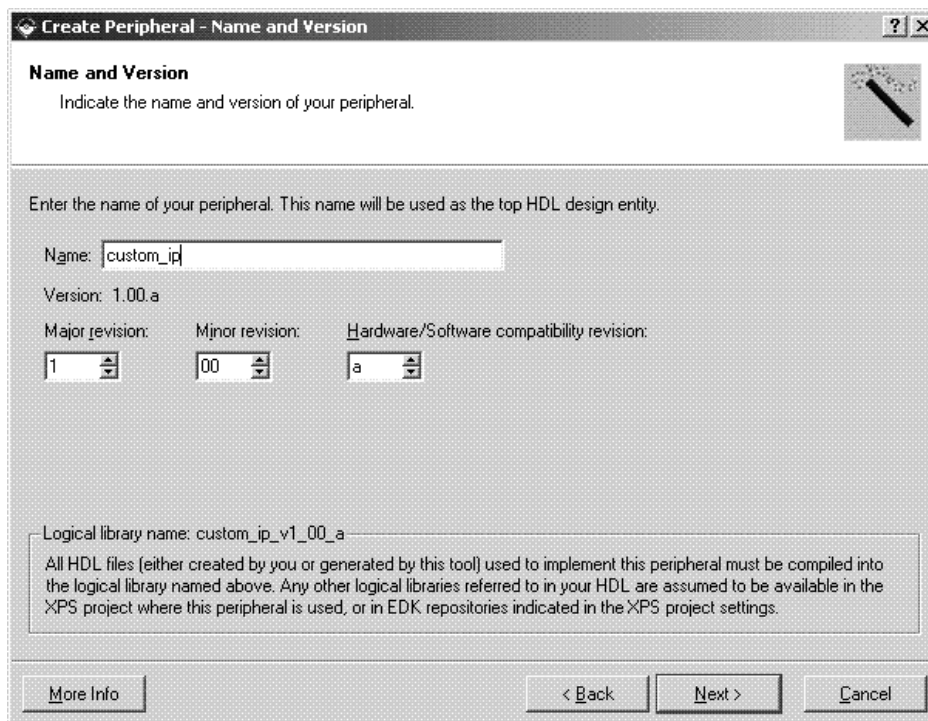

Figure 12: Create Peripheral - Name and Version
- Click **Next**. In the Create Peripheral – Name and Version dialog, enter `custom_ip` as the name of the peripheral. This is shown in Figure 12.